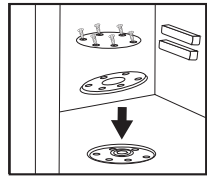

Figure 8
8. Replace the gasket and secure the mounting plate cover with the 6 screws (Figure 8).